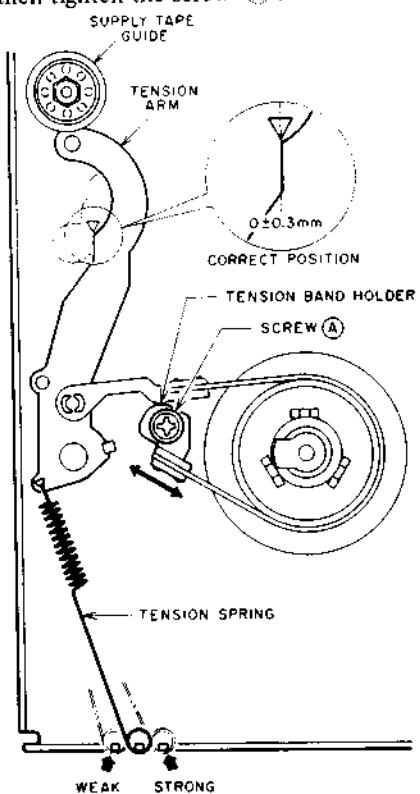

Fig. 5-1
- 3) In the play mode, loosen the screw ① and set the TENSION ARM position to the correct position as shown in Fig. 5-1 by the tension band holder position, then tighten the screw ① .